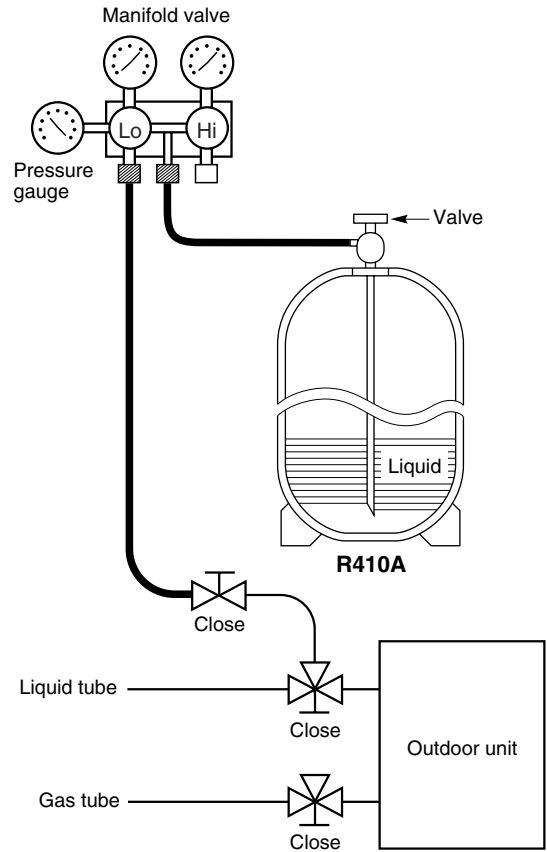

Fig. 8-5
- Charging additional refrigerant (calculated from the liquid tube length as shown in “Amount of additional refrigerant charge”) using the liquid tube service valve. (Fig. 8-5)